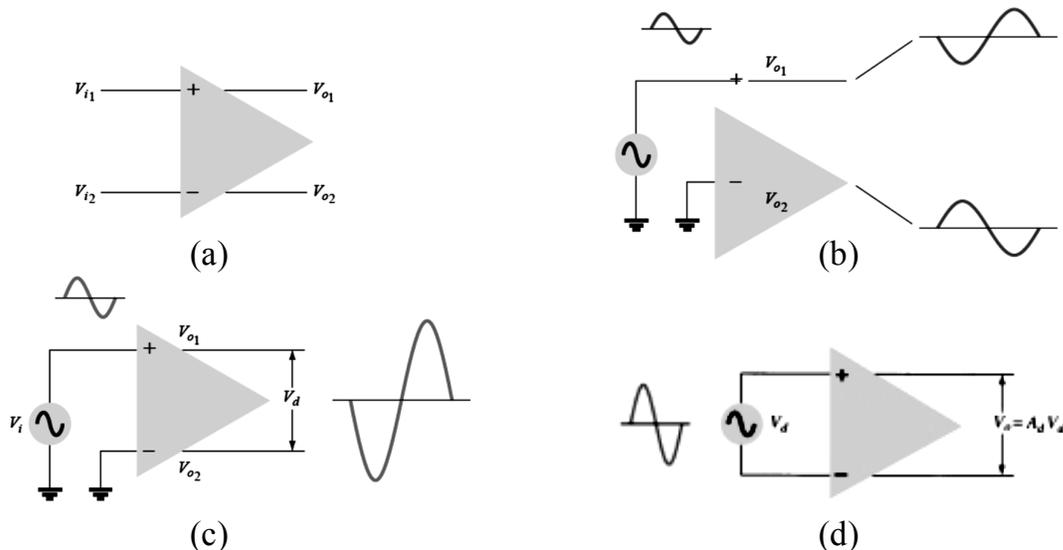

Fig. 1-6
**Double-Ended Output:** While the operation discussed so far had a single output, the op-amp can also be operated with opposite outputs, as shown in Fig. 1-6(a). An input applied to either input will result in outputs from both output terminals, these outputs always being opposite in polarity. Fig. 1-6(b) shows a single-ended input with a double-ended output. As shown, the signal applied to the plus input results in two amplified outputs of opposite polarity. Fig. 1-6(c) shows the same operation with a single output measured between output terminals (not with respect to ground). This difference output signal is  $V_{o1} - V_{o2}$ . The difference output is also referred to as a floating signal since neither output terminal is the ground (reference) terminal. Notice that the difference output is twice as large as either  $V_{o1}$  or  $V_{o2}$  since they are of opposite polarity and subtracting them results in twice their amplitude. Fig. 1-6(d) shows a differential input, differential output operation. The input is applied between the two input terminals and the output taken from between the two output terminals. This is fully differential operation.